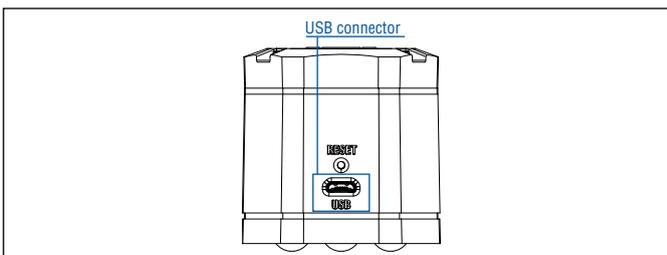

Fig. 93: USB port on the TempoLink® smart assistant
1. Connect the USB cable with the micro USB connector to the port labeled “USB” on the TempoLink® smart assistant (Fig. 93).